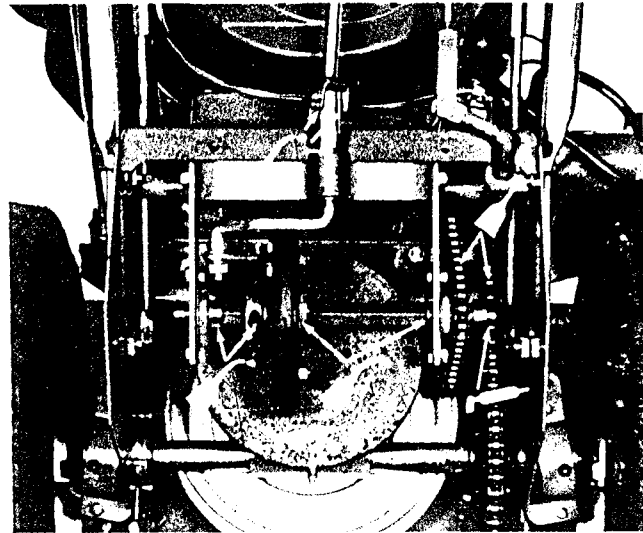

Figure 30
3. Remove four thread forming screws holding rear shield against traction unit; then slide shield away from traction unit. Next, lightly lubricate drive chains, sprocket bushing, nylon ring, hex shaft, and the other pivot points with SAE 10W-40 oil and #2 grease (Fig. 30). Wipe up any excess oil. Lastly, install rear shield against traction unit with four thread forming screws.